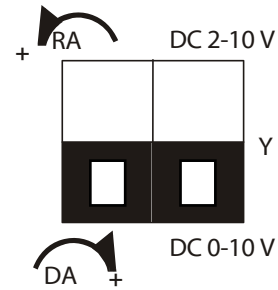

Figure 12: VAM24-35-P Factory Switch Setting
For Reverse Acting (RA) operation, a minimum control signal drives the actuator to the full CW position and a maximum signal drives the actuator to the full CCW position. To change the factory settings, remove the actuator cover and adjust the switches on the circuit board as shown in Figure 12.